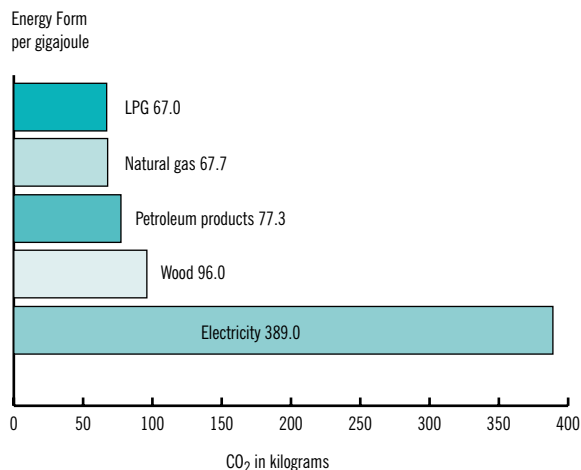

Figure 9.2: Carbon dioxide emissions of Victorian fuel types
- ▶ **Greenhouse impact.** Fuels used to produce energy give off greenhouse gases (predominantly carbon dioxide). Figure 9.2 shows the relative carbon dioxide emissions of various fuels in Victoria.